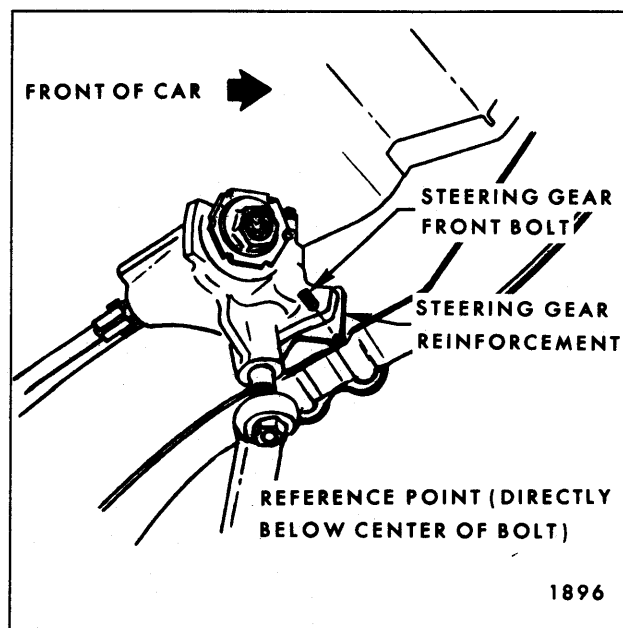
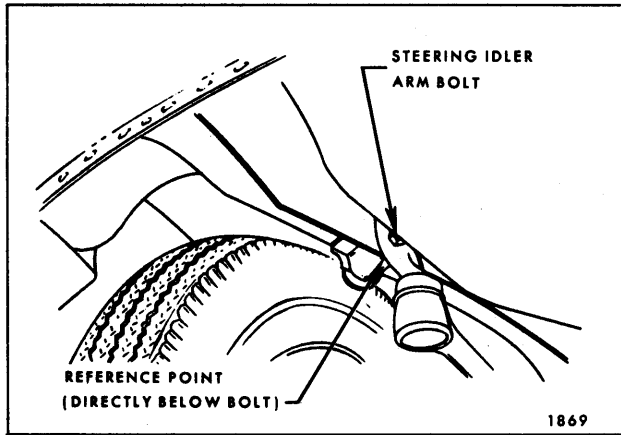

Fig. 3-4—Reference Point at Steering Gear Reinforcement
Fig. 3-5—Reference Point at Steering Idler Arm
| H 31-7/8 | Lower inner edge of steering gear reinforcement directly below center of steering gear front attaching bolt hole (Fig. 3-4) and lower inner edge of front compartment right side rail directly below center of steering gear idler arm support lower attaching bolt hole (Fig. 3-5). |
- I 31-15/16 Lower inner edge of steering gear reinforcement directly below center of steering gear front attaching bolt hole (Fig. 3-4) and front suspension front attaching bolt hole or bolt head on opposite side of body.
- J 31-1/32 Lower inner edge of front compartment right side rail directly below center of steering gear idler arm support lower attaching bolt hole (Fig. 3-5) and front suspension front attaching bolt hole or bolt head on opposite side of body.